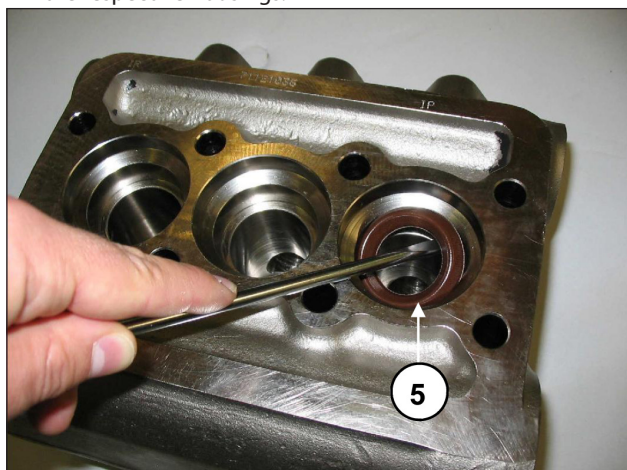

Fig. 21
C) Extract the high pressure seals from the head and the low pressure ones from the support, using simple tools as indicated in Fig. 21, pos. ⑤, being careful not to damage the respective housings.